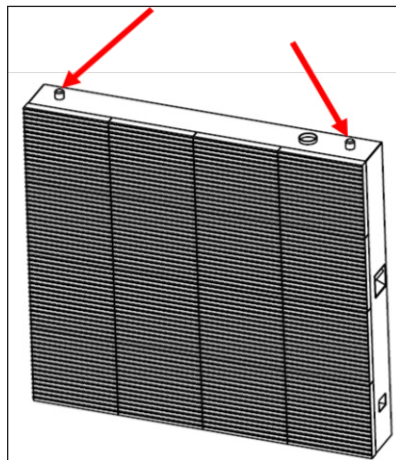
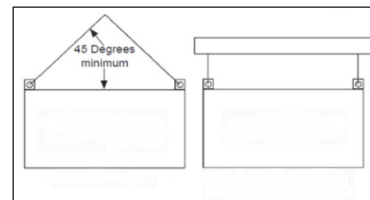
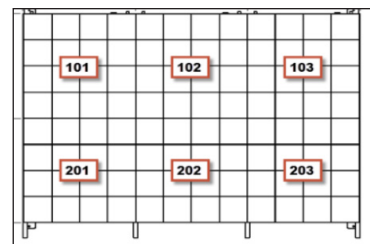

Figure 3: Alignment Bolts
Figure 4: Lifting Methods
Figure 5: Section Numbering
3. Attach clevis shackles on each of the alignment bolts in the top of each section to lift it into place. A 10 mm hole is in each of the alignment bolts. Refer to **Figure 3** and **Figure 4**. Lift only one section at a time. Install the bottom-center section (Section 202 in **Figure 5**) first unless otherwise specified.